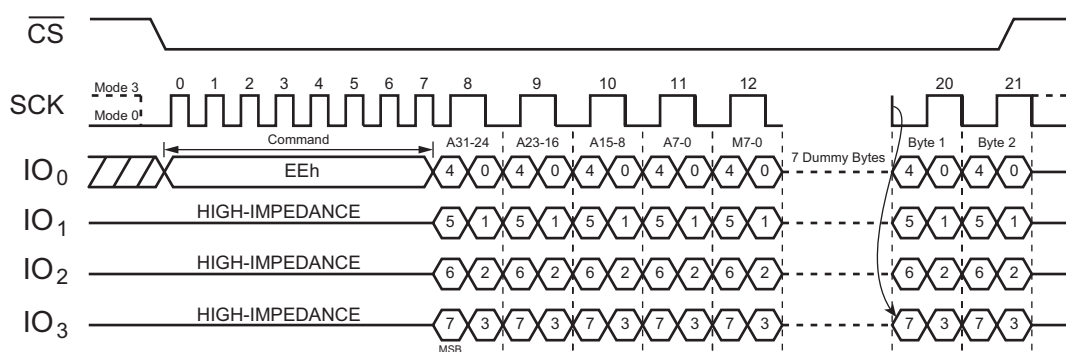
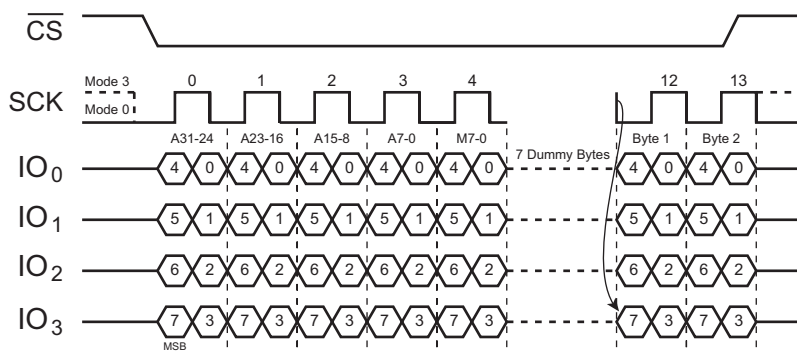

Figure 65. DTR Quad I/O Fast Read with Four-Byte Address (SPI Mode, Initial command or previous M5-4≠10)
Figure 68. DTR Quad I/O Fast Read with Four-Byte Address (QPI Mode; Initial command or previous M5-4=10)
The DTR Quad I/O Fast Read with Four-Byte Address (EEh) command is similar to the Fast Read Dual I/O (BBh) command except that address and data bits are input and output through four pins IO₀, IO₁, IO₂, and IO₃, as well as four Dummy clocks, are required in SPI mode before the data output, as shown in Figure 65 to Figure 68. The Quad Enable bit (QE) of Status Register must be set to enable.